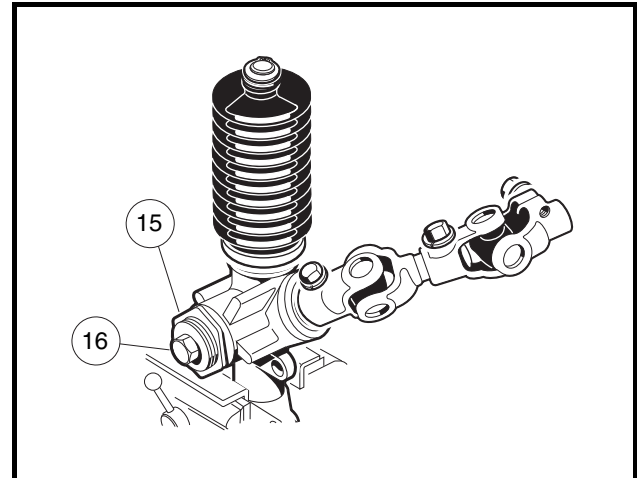

Figure 7-13 Rack and Pinion Adjustment
- 11.4. If measured resistance does not equal 7 to 15 in-lb, loosen the lock nut (15) and tighten the screw (16) until it bottoms out, then back the screw off one quarter turn. Tighten the lock nut to 28 ft-lb (38 N·m) (Figure 7-13, Page 7-12). See following NOTE.
NOTE: When tightening the lock nut (15) make sure the screw (16) does not change adjustment (**Figure 7-13, Page 7-12**).